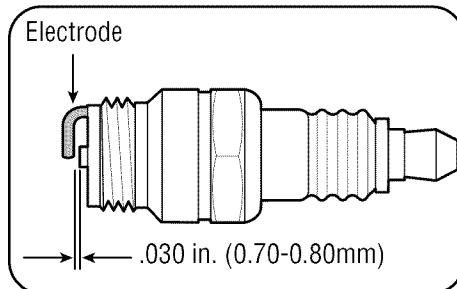

Figure 19
- Check the gap using a wire feeler gauge. Adjust the gap to .030 in. (0.76mm) by carefully bending the ground electrode. See Figure 19.